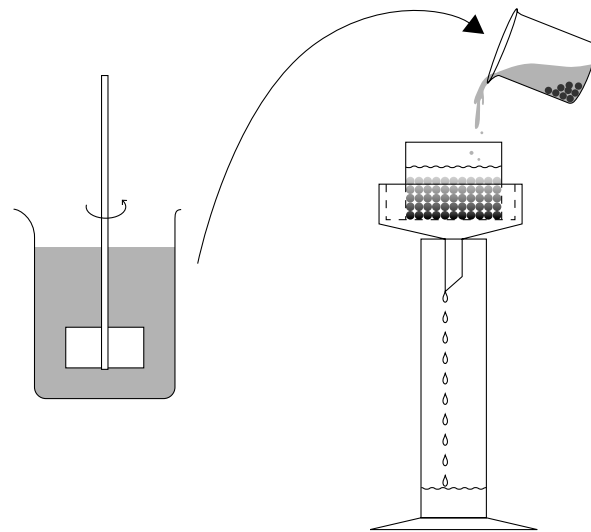

Figure 8. Filtration Test
4) Filtration test (See Figure 8.)